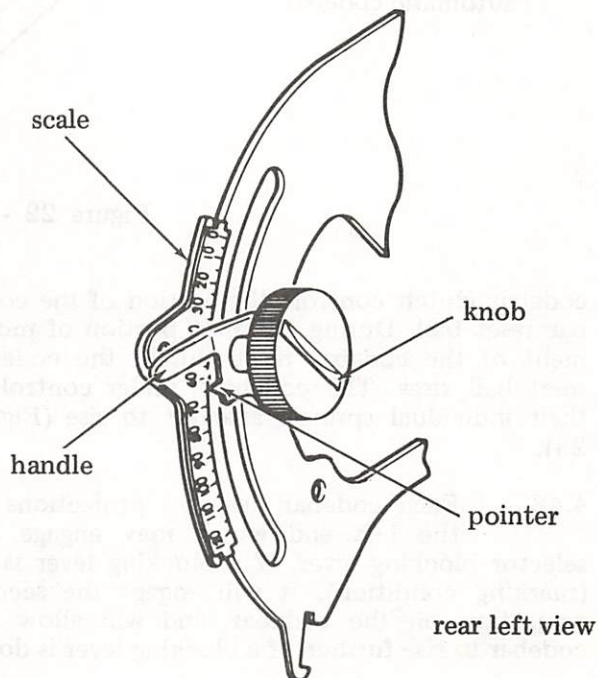

Figure 21 - Range Finder
4.43 For optimum operation of the typing unit, the selector must sample the code elements at the most favorable time. The range finder illustrated in Figure 21 provides a means of determining this time by establishing a range of operating margins.